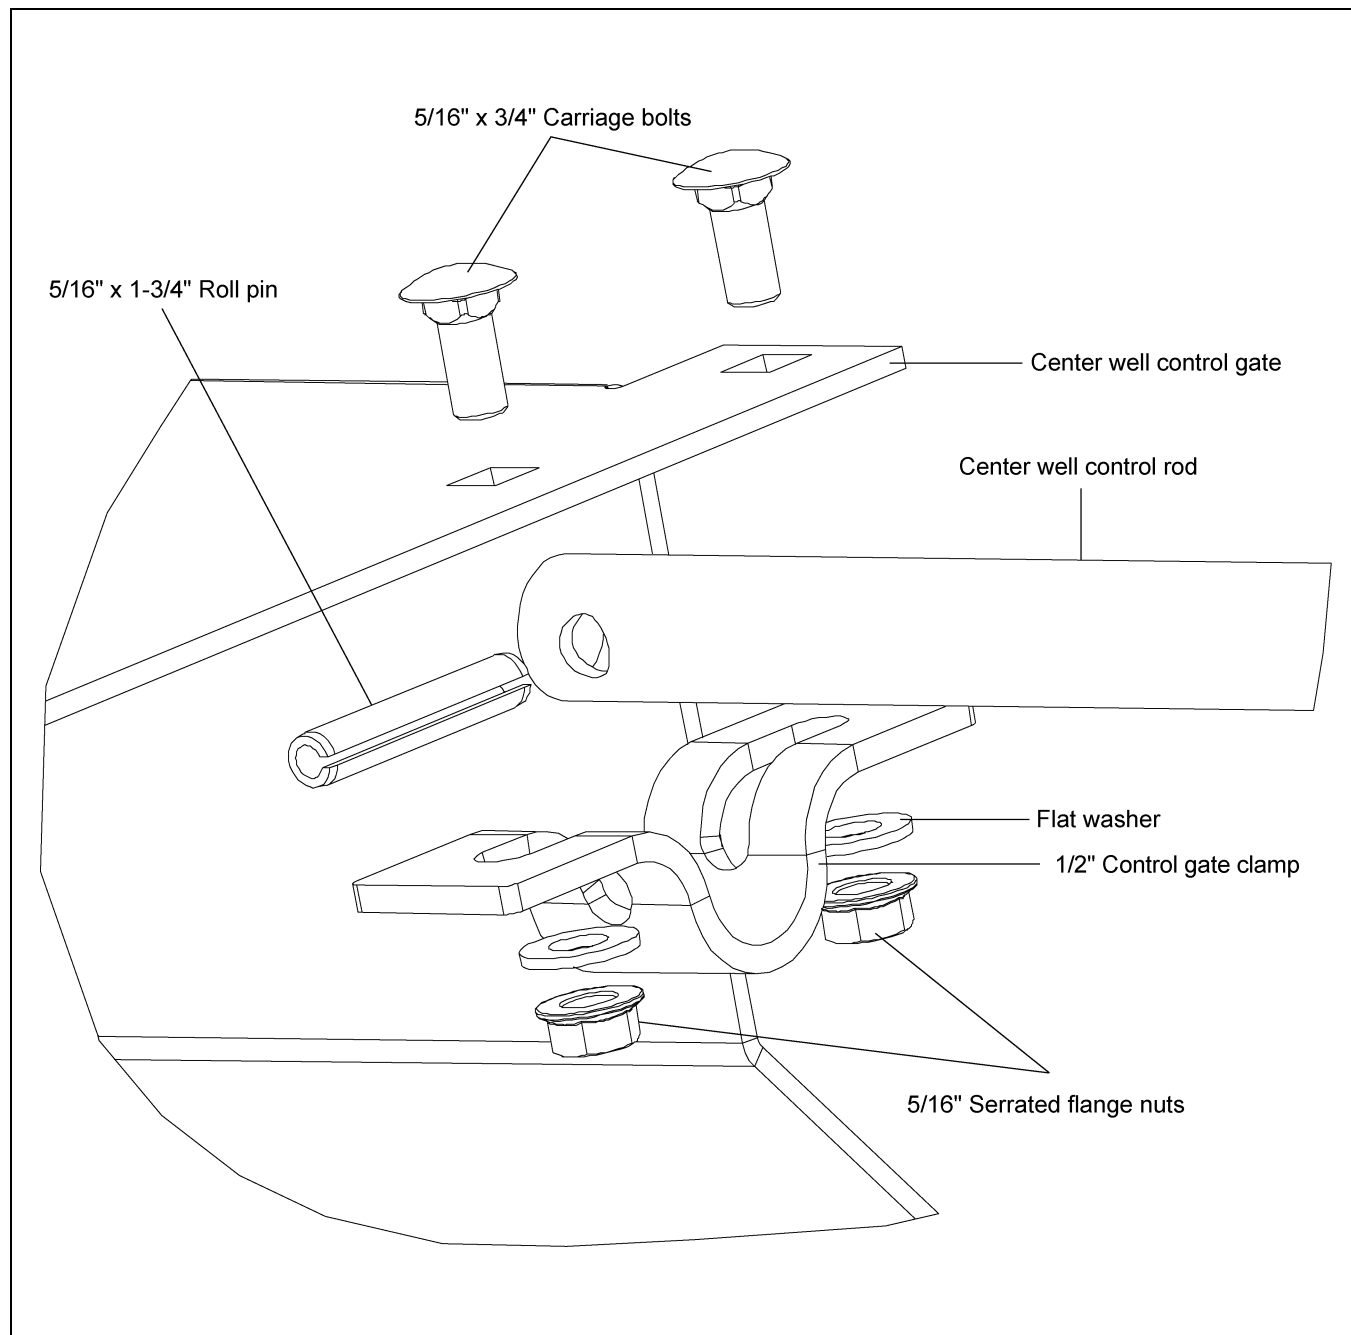

Figure 4N
4. Fasten clamp to bottom side of control gate by using two (2) 5/16" x 3/4" long carriage bolts, flat washers and serrated flange nuts. *(See Figure 4N.)*